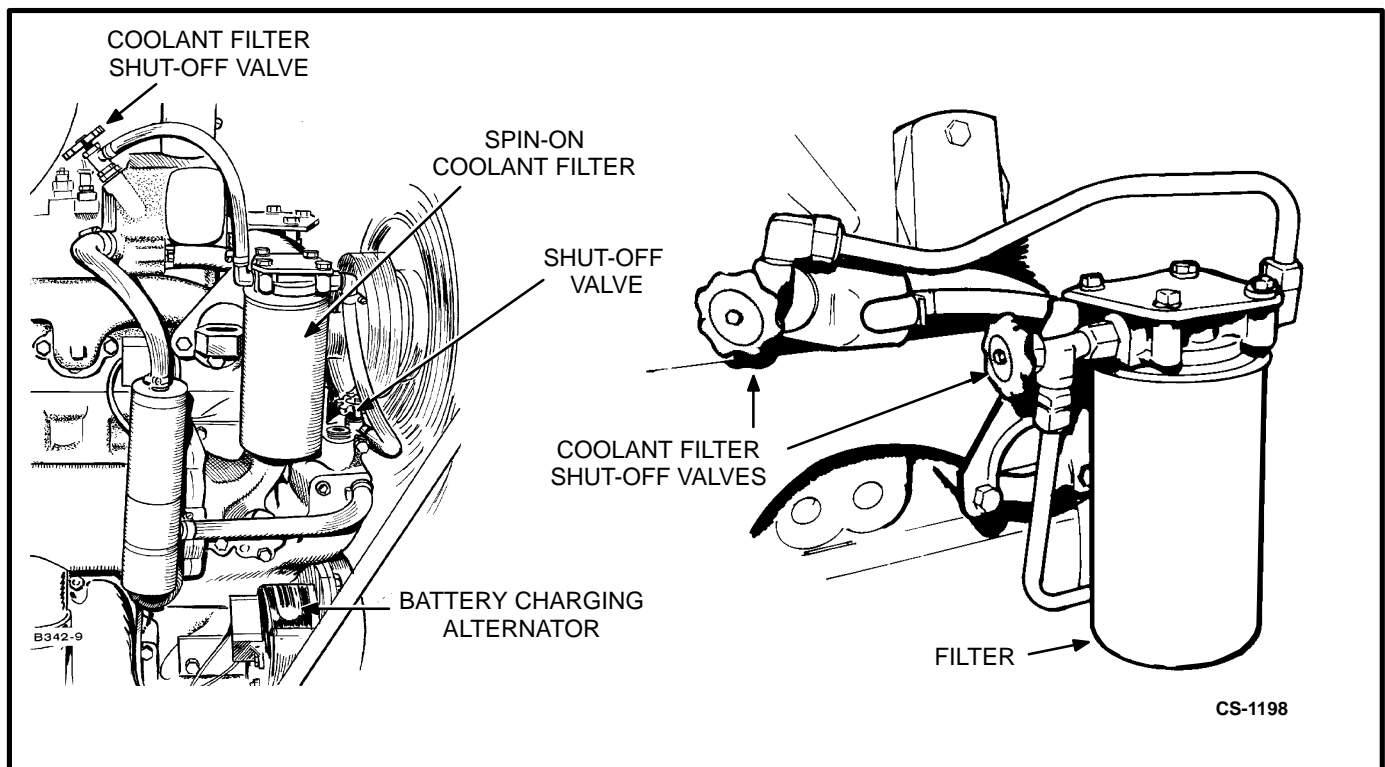

FIGURE 5-5. COOLANT FILTER
1. Close the shutoff valves (Figure 5-5).